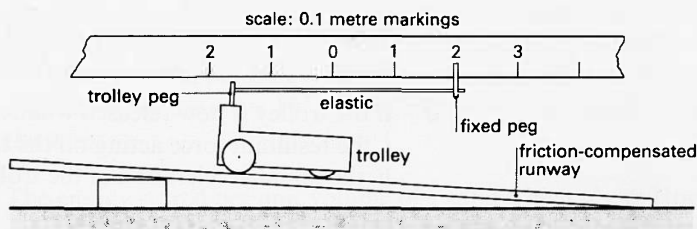
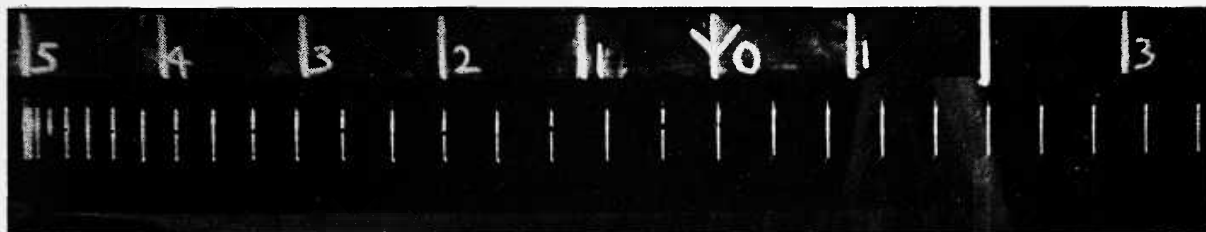

Figure A91
Figure A92
- 12(P)** Figure A91 shows the apparatus with which the stroboscopic photograph (figure A92) was made. The photograph shows the distance scale marked in 0.1 m intervals and below it a series of 'glimpses', at 0.1 s intervals, of the peg attached to the trolley. An